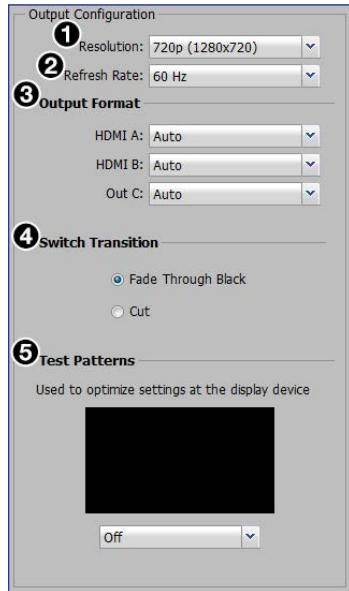

Figure 61. Output Configuration (IN1608)
From the **Resolution** drop-down menu (see figure 61, ①), select the applicable output resolution.